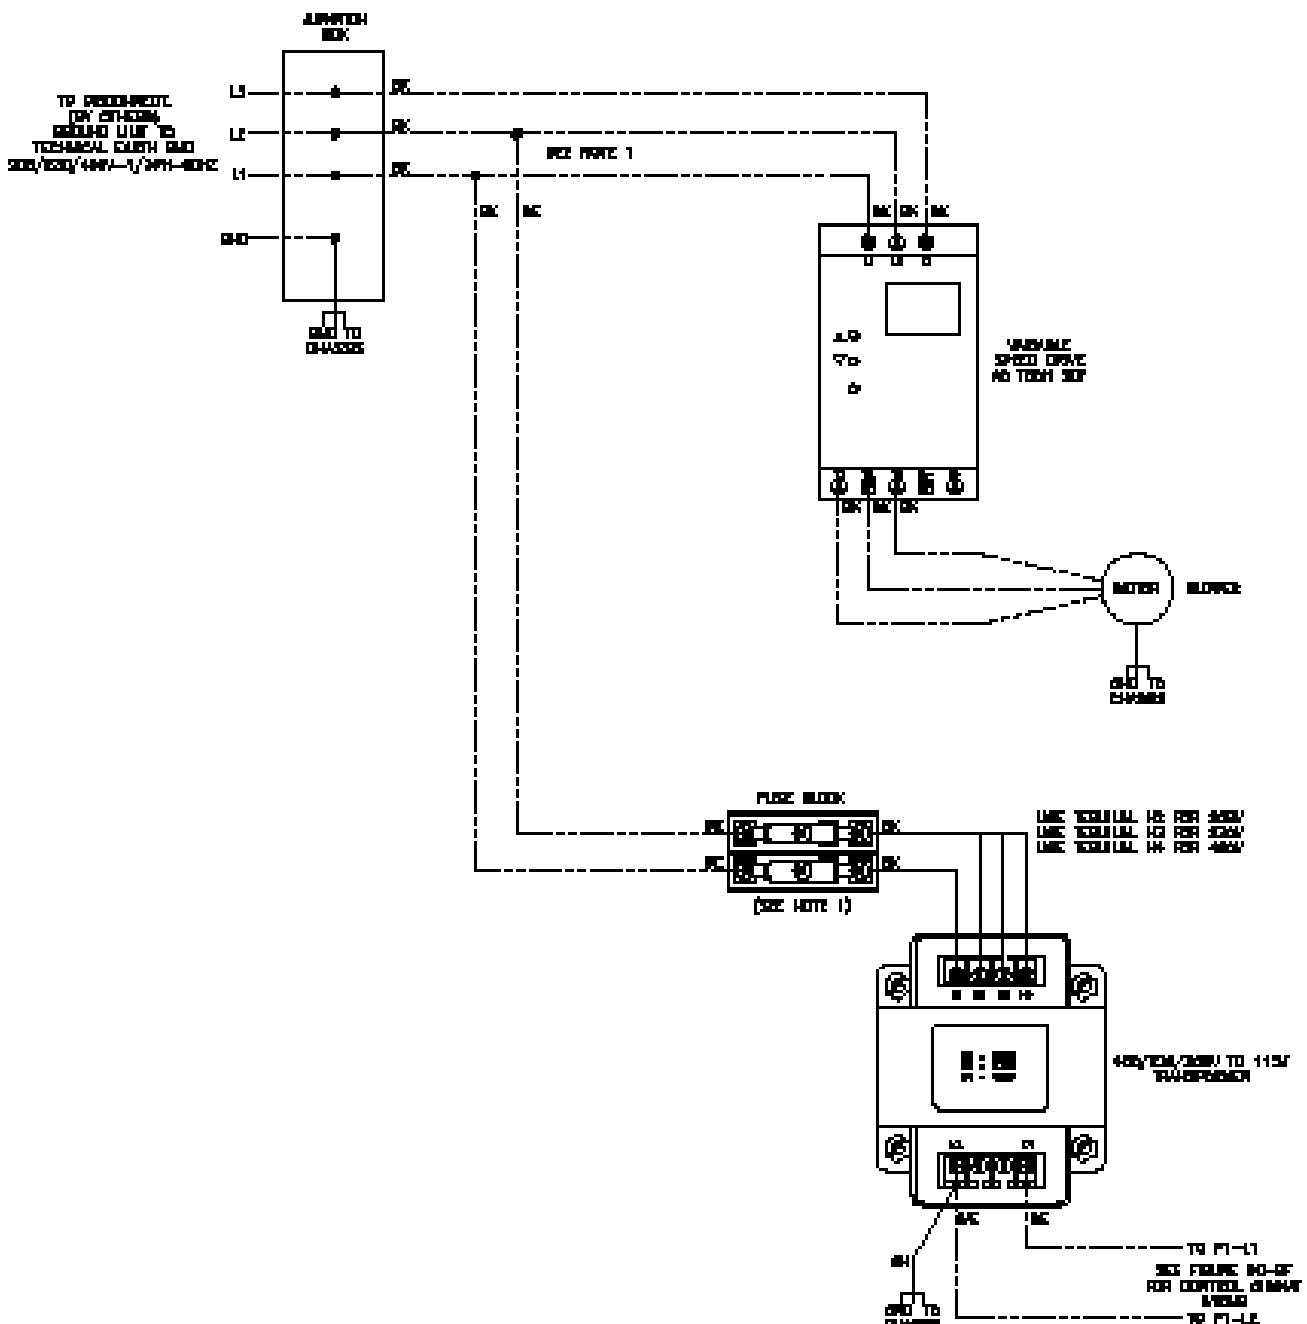

Figure 9a: 208/230/460V-1/3 ph-60 Hz Supply Power Wiring Schematic
4. Connect field supplied safety limits or devices using proper terminals provided in boiler electrical cabinet. Refer to wiring diagram supplied with boiler for wiring information. Refer to Figures 9a - 9f for typical wiring diagrams. Refer to Figure 1 for electrical requirements for boiler.